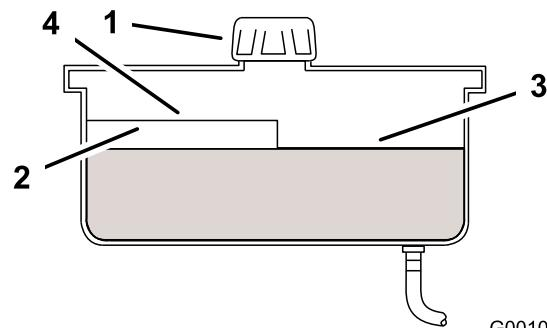

Figure 50
4. Clean area around cap and filler neck of hydraulic tank (Figure 50).
5. Remove cap from filler neck. Look inside to check if there is fluid in the reservoir. (Figure 50).
Note: The fluid level should be to the top of the hot level of the baffle, when the fluid is warm (Figure 50).